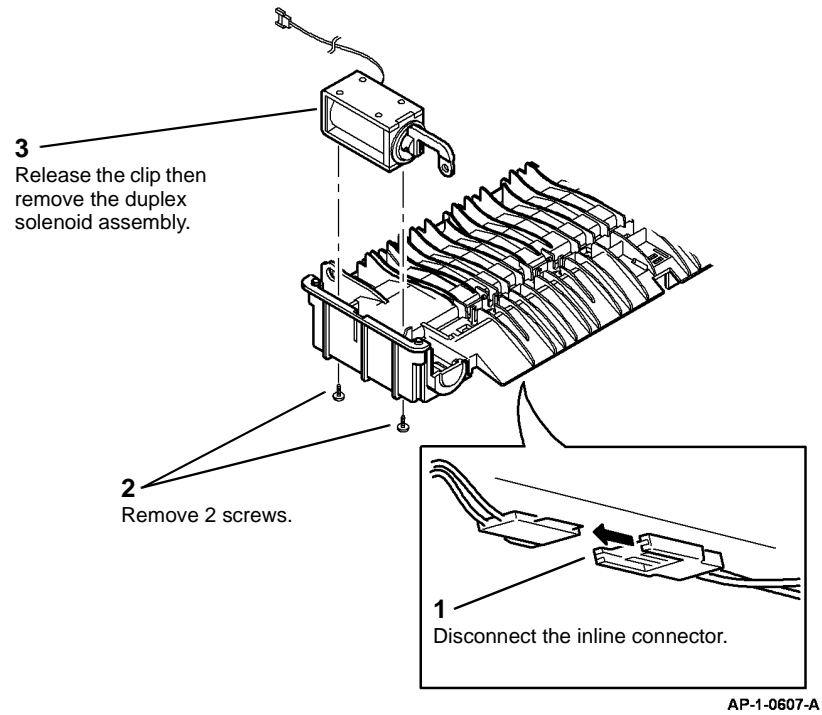

Figure 3 Removing the Duplex Solenoid Assembly
4. Remove the Duplex Solenoid Assembly (Figure 3).